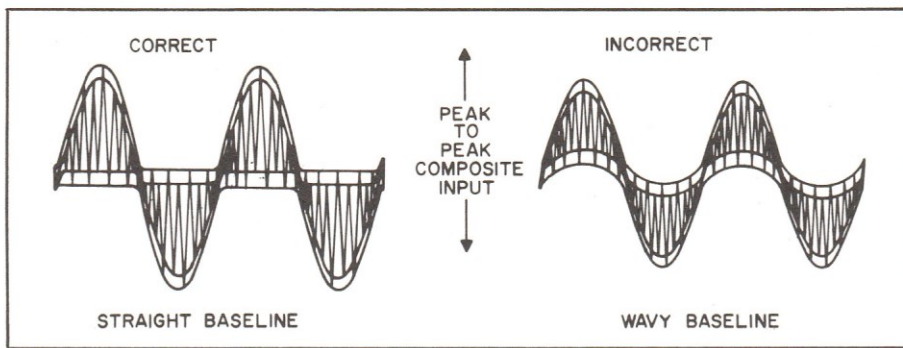

Figure 1. Composite Input To Multiplex Decoder.
- (1) Connect RF output of multiplex generator to the FM NORM antenna terminals. Set TUNING dial pointer to RF frequency of multiplex generator.
- (2) Connect output of audio generator, set for 1 kHz (kc), to the external modulation input of multiplex generator and to the external sync input of an oscilloscope. Connect the vertical input of the scope to pin 4B on the multiplex board and adjust the output of the multiplex generator for 1.4 volts peak-to-peak composite multiplex input (see Figure 1).
- (3) Ground pin 4C on the multiplex board to the chassis.
- (4) Follow procedures given in Table 1 below.
- (5) After alignment is complete, disconnect pin 4C from the chassis.
- (1) Connect output of audio generator, set for 1 kHz (kc), to the external modulation input of multiplex generator and to the external sync input of an oscilloscope. Connect the vertical input of the scope to the composite output of the multiplex generator and adjust the output of the multiplex generator for 2 volts peak-to-peak composite multiplex output (see Figure 1).
- (2) Disconnect the lead going to pin 4B on the multiplex board. Connect the output of the multiplex generator through a 15K ohm resistor to pin 4B on the multiplex board.
- (5) After alignment is complete, disconnect multiplex generator and resistor, and reconnect lead going to pin 4B on the multiplex board. Disconnect pin 4C from the chassis.